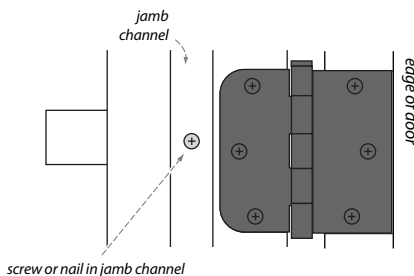

Figure 5
- c. Either using screws or nail gun, attach hinge jamb side of frame making sure the screws or nails penetrate thru the shims. **Installation screws or nails should be placed in jamb channel.** Jamb should be fastened in close location to the hinges (figure 5).